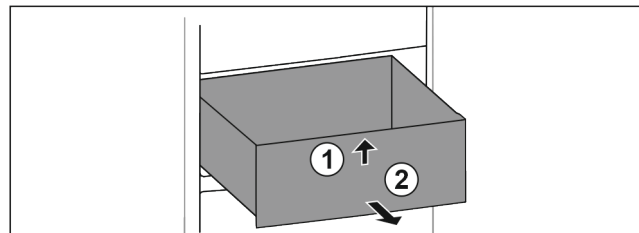

Fig. 81
- ▶ Lift drawer at the front. Fig. 81 (1)
- ▶ Remove drawer to the front. Fig. 81 (2)